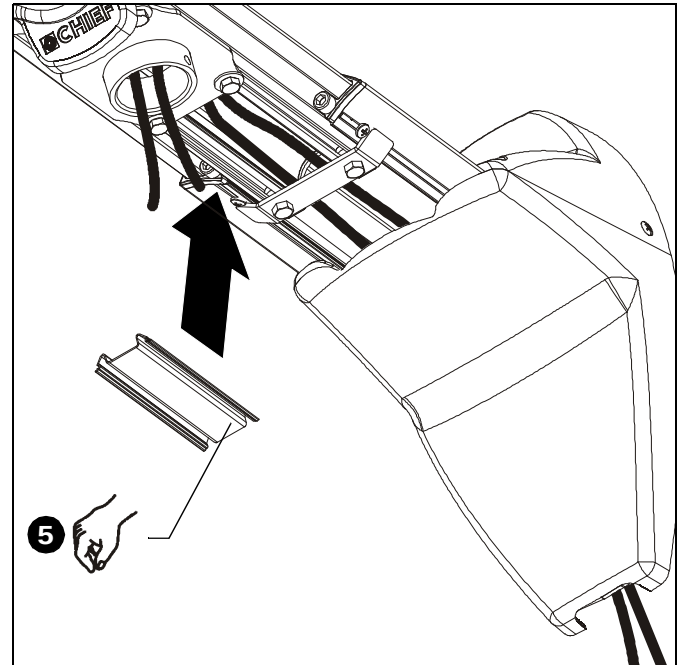

Figure 20
5. Replace removed cable management cover (if necessary) by snapping it into place. (See Figure 20)